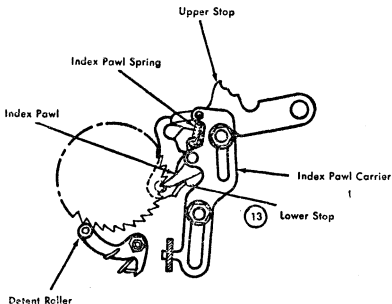

Figure 15. Index Pawl Stop Adjustment
b. It moves the toggle link past center which locks the clutch operating lever and causes pressure on the friction disc. This pressure makes the clutch pulley turn and winds up the carriage return tape. The first action of the carriage return tape is to pull down on the hook lever assembly. This action allows the index pawl to enter a platen ratchet tooth. The platen ratchet is then rotated until the index pawl reaches its lower stop (Figure 15). All line spacing motion is halted at this instant and the carriage starts to move to the right. This motion continues until the left-hand margin stop strikes the raised TKO lever. The TKO lever is
INDEX PAWL CARRIER ASSEMBLY. Remove the two nuts and washers which retain the carrier on its mounting studs. In replacing the washers, the burr side, or sharp side, of the washers should be mounted away from the carrier to permit the carrier to travel freely without the possibility of binding on the washers (Figure 15).
DETENT ROLLER. Remove the lock nut, the eccentric nut, and the detent spring from their mounting stud (Figure 15).
13. LOWER INDEX PAWL STOP. Loosen its lock nut and move the stop so that it halts all downward movement of the line space mechanism when the detent roller is squarely positioned between two teeth. Check this by pulling on the carriage return tape until the index pawl strikes the lower stop. Then slowly relax the tension. There should be no further rotation of the platen, either forward or backward (Figure 15).